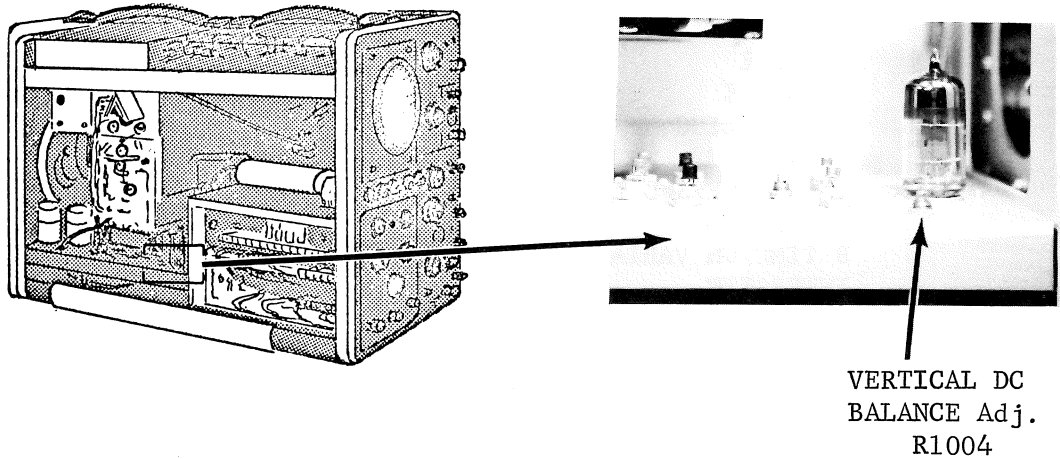

Figure 17
3. Adjust VERTICAL DC BALANCE adjustment (R1004 - see Fig.17) to position the trace to the center of the graticule as viewed on the CRT.